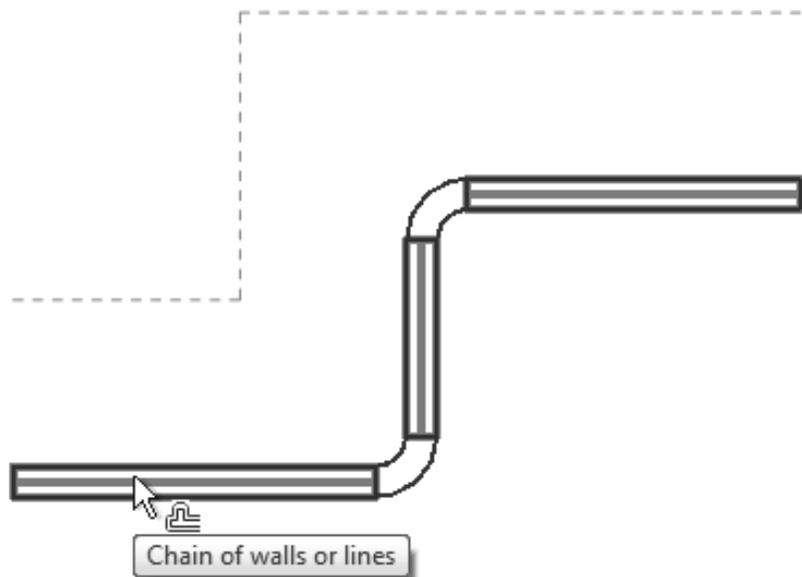

Figure 2–78
- With the **Numerical** option, you can select multiple connected linear elements for offsetting. Hover the cursor over an element and press <Tab> until the other related elements are highlighted, as shown in Figure 2–78. Select the element to offset all of the elements at the same time.